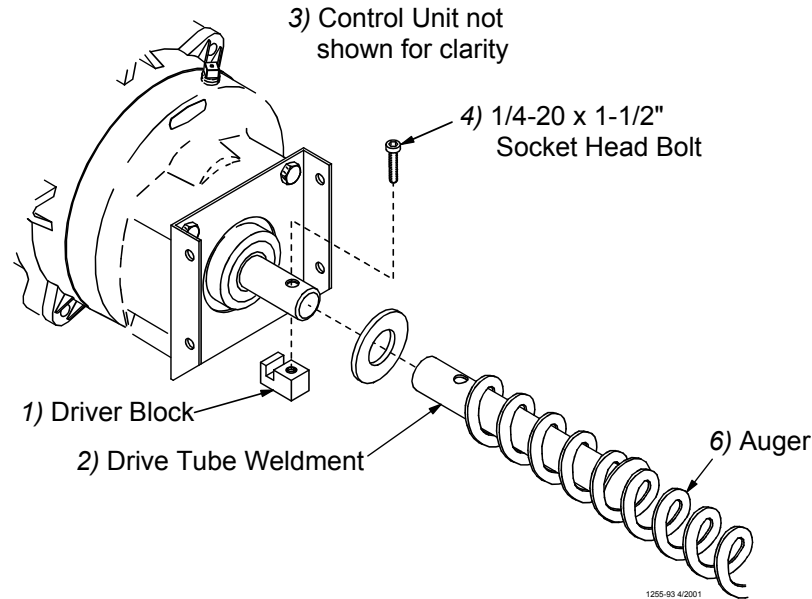

Figure 43. Auger Driver Components
4. Slide the Drive Tube and flat washer over the output shaft on the Power Unit, as shown in **Figure 43**.
6. Turn the Drive Tube Weldment into the auger, then attach to the output shaft of the Power Unit, as shown in **Figure 43**. Use the Driver Block to secure the auger to the Output Shaft.